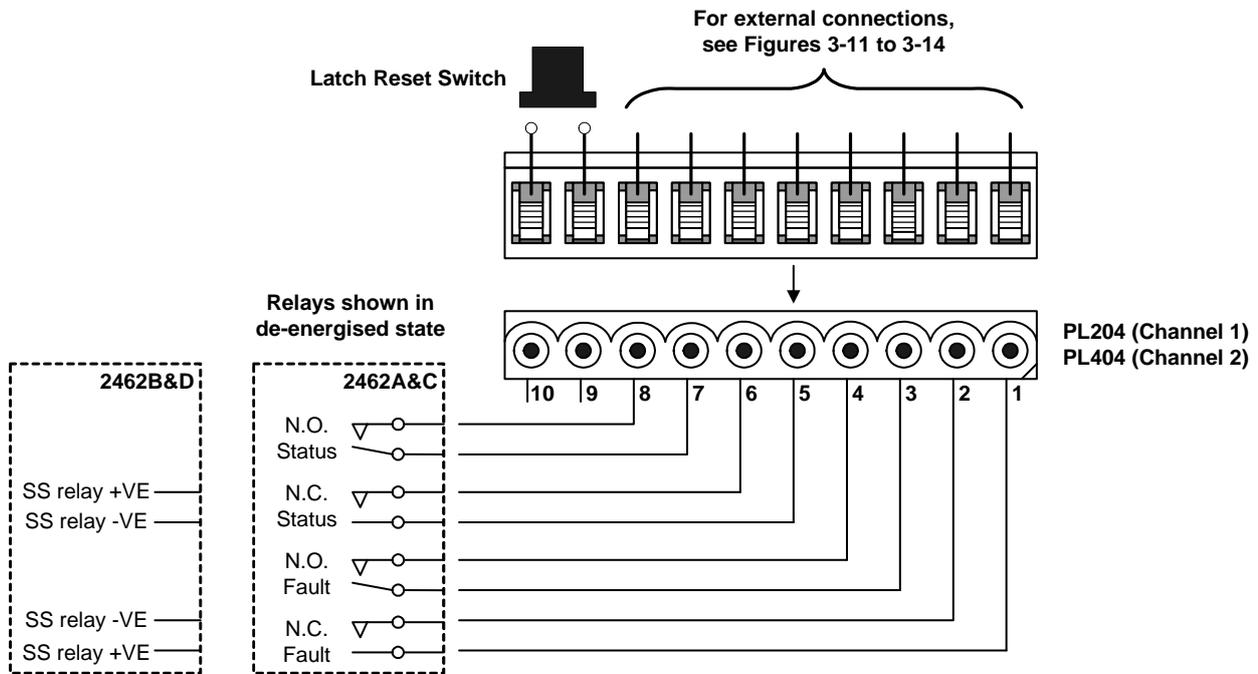
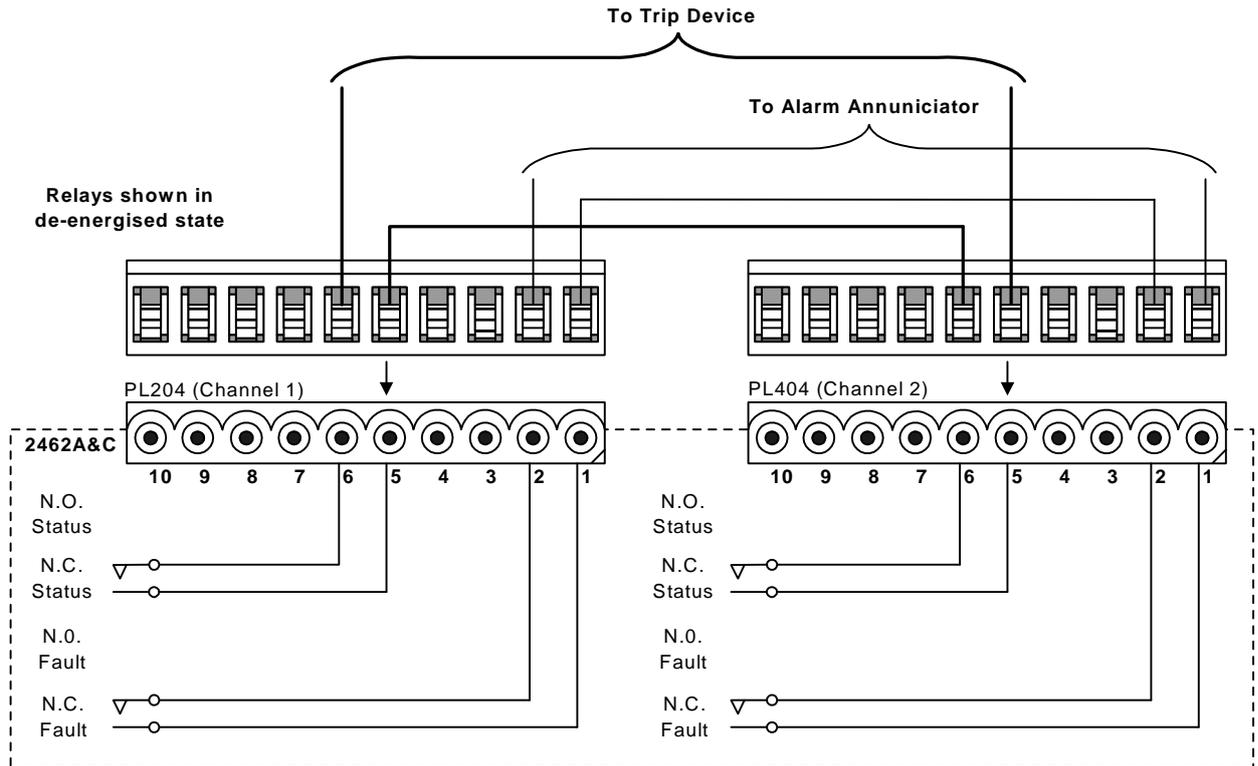
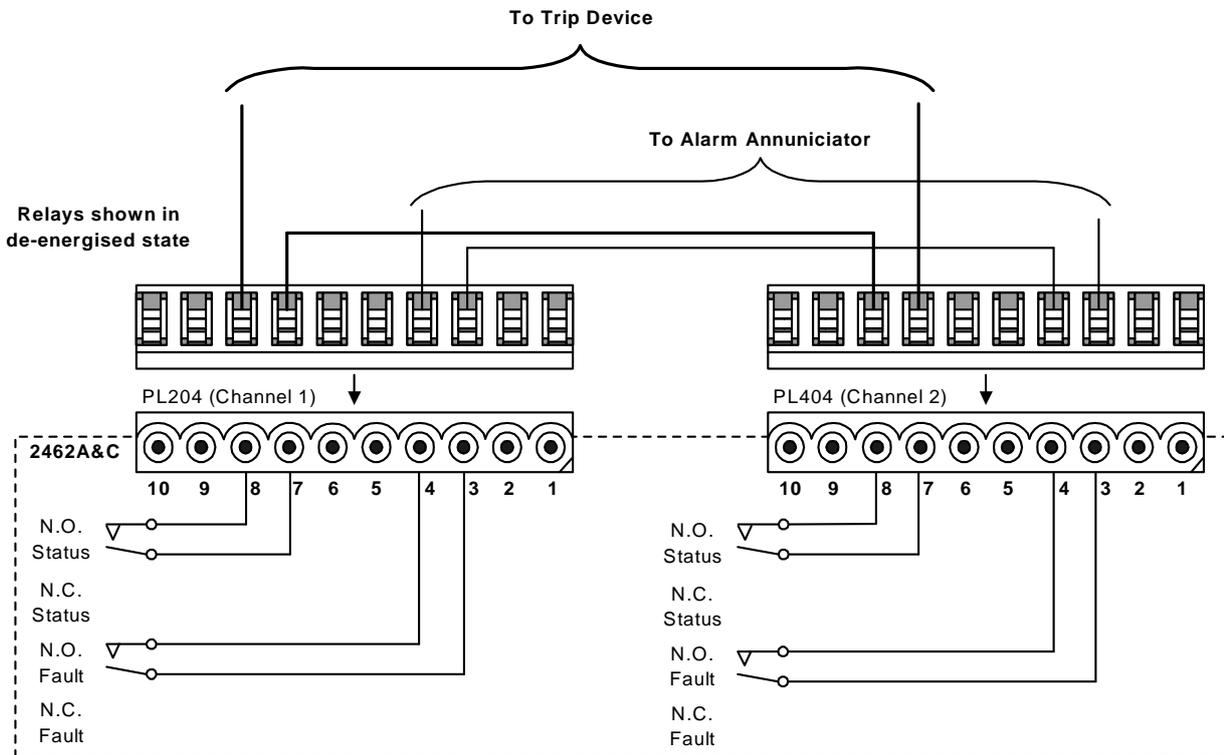

Figure 3.8: Status, fault and status-reset connections
Figure 3.9: 'One out of two' configuration, using normally-closed contacts
Figure 3.12: 'Two out of two' configuration, using normally-open contacts
- 5 Fit the cable to a Klippon connector by screwing in the crimped-on pins, in accordance with Figure 3.8. Four options (configurations) are shown in Figure 3.9 though Figure 3.12